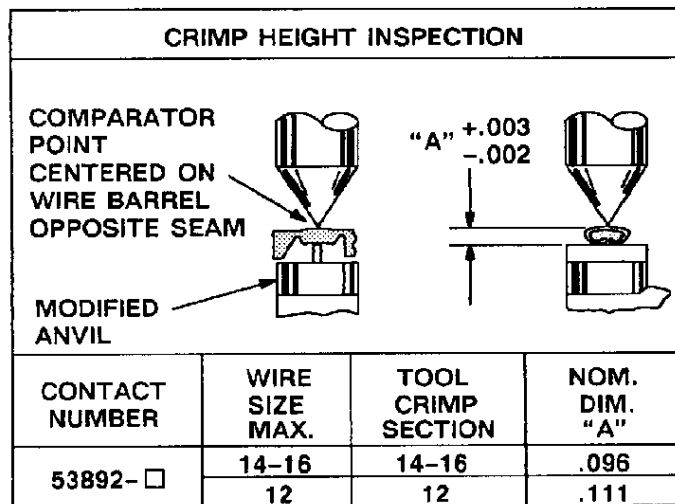

Fig. 4
The crimp height inspection requires the use of a micrometer, as shown in Figure 4. AMP recommends using the modified micrometer (Crimp Height Comparator) RS-1019-5L) which can be purchased from:
1. Refer to the chart in Figure 4 and select a contact and the compatible cable.
3. Using a crimp height comparator, measure the center contact barrel crimp height, as shown in Figure 4. If the crimp height conforms to that listed in Figure 4, the tool is considered dimensionally correct. If not, return the tool to AMP for evaluation and repair (see Paragraph 6, REPAIR).